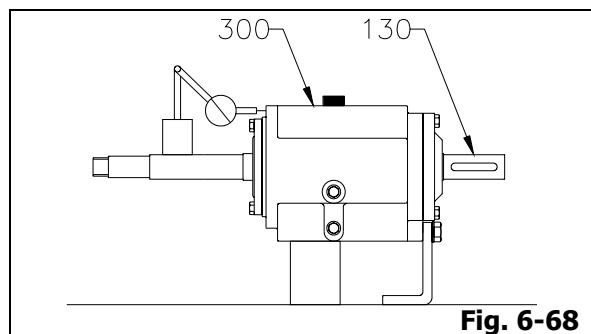

Fig. 6-68
20. Check bearing frame (300) face run out. Rotate shaft (130) so indicator rides along the face for 360° . If total indicator reading is greater than 0.05mm, disassemble and determine cause (Fig. 6-68).